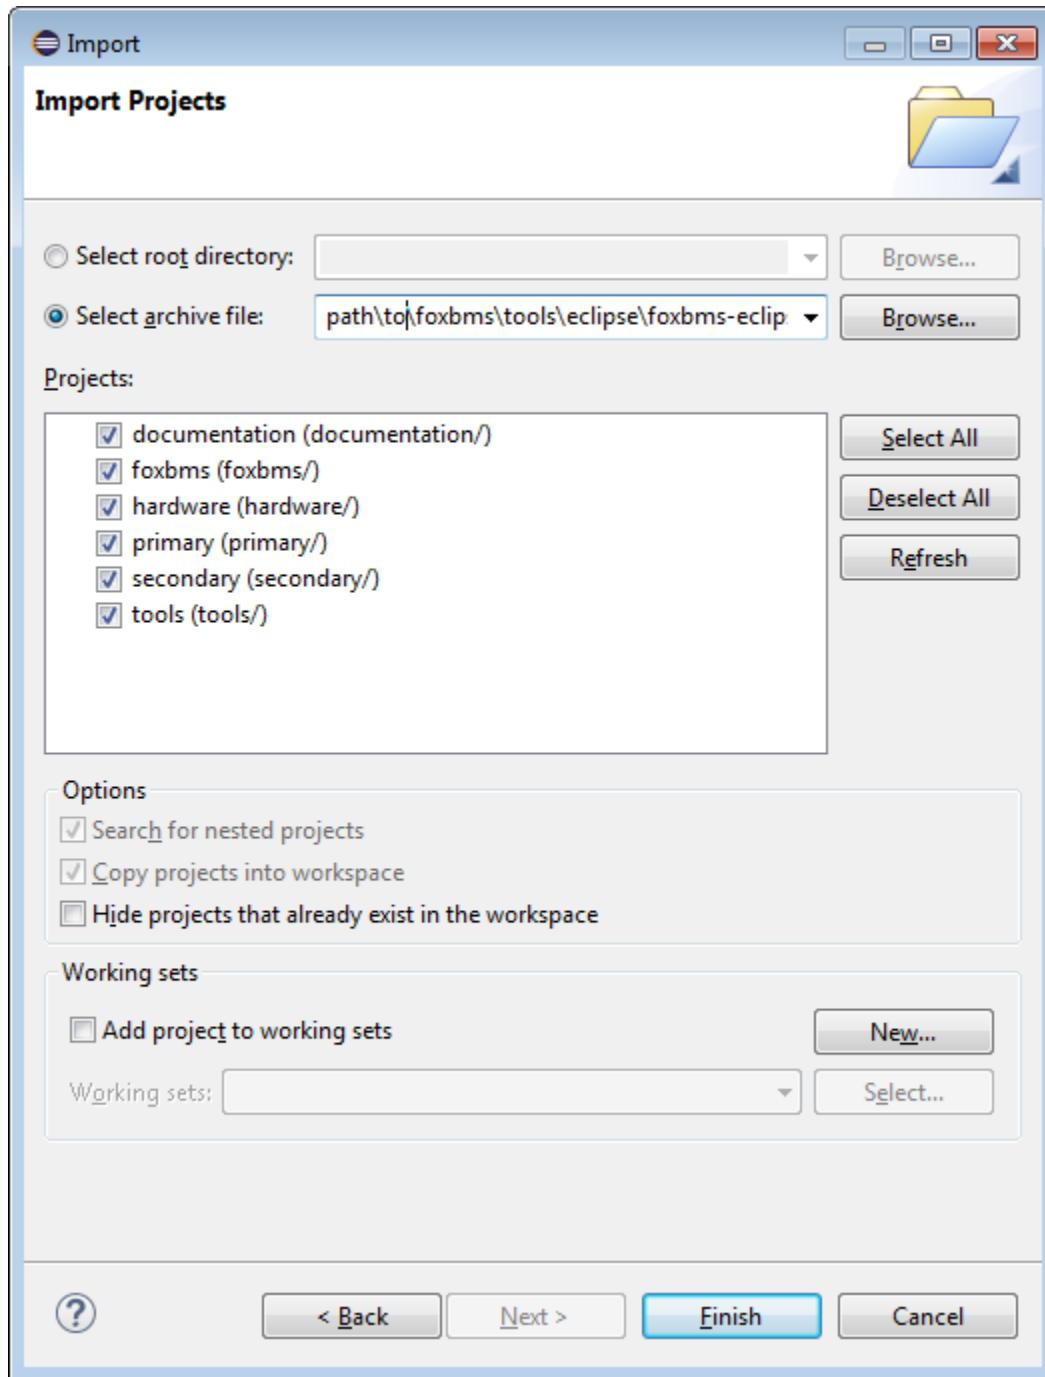

Fig. 11.12: Select all projects to be imported
4. Choose Select archive file: and use path\to\foxbms\tools\eclipse\foxbms-eclipse-project.zip This will list the foxBMS projects, as shown in Fig. 11.12.